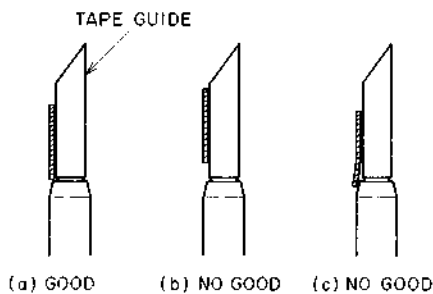

Fig. 6-6-2
- 3) Press the REV button (REVIEW mode) confirm the curl at the tape down edge is not existed at the TAPE GUIDE as shown in Fig. 6-6-2. (Fig. 6-6-2 (c) is not acceptable, but Fig. 6-6-2 (b) is acceptable.) After the adjustment, tighten the nut ④.